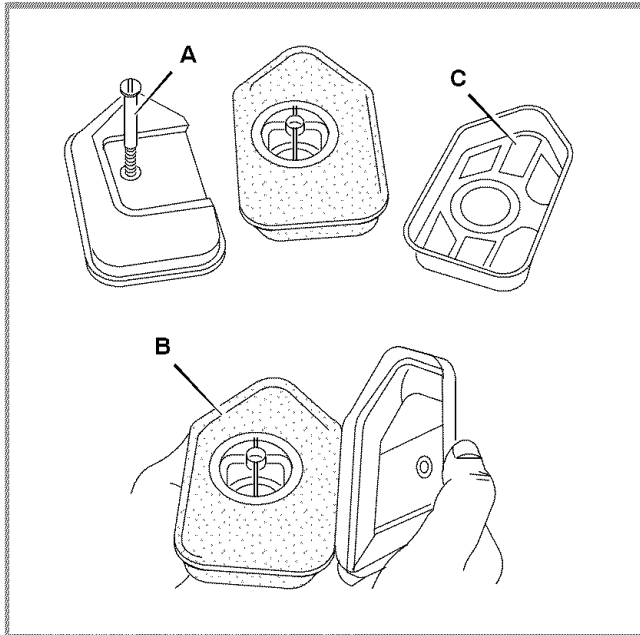

Figure 20: Change Air Filter
- 2 Remove screw (A) as illustrated in Figure 20.
- 4 Take the air cleaner apart and clean all parts. If the filter (B) is very dirty or damaged, replace it with a new filter.